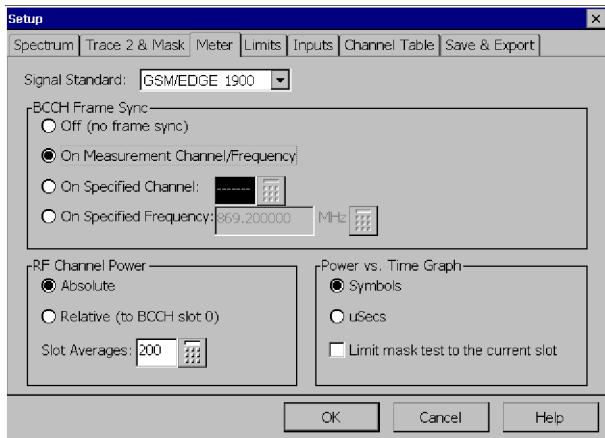

Figure 3-35: GSM/EDGE RF Power measurement parameters
2. Tap the **Meter** tab. See Figure 3-35.